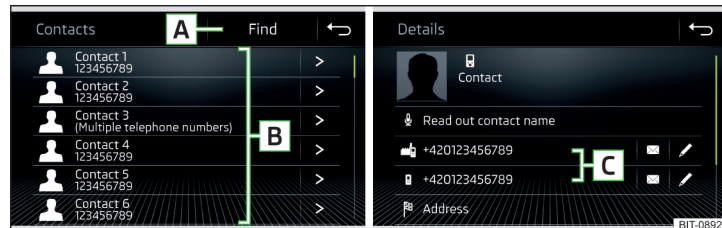
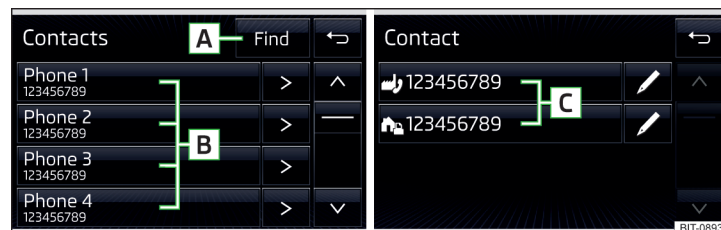

Fig. 165 Amundsen, Bolero: List of telephone contacts/contact details
Fig. 166 Swing: List of telephone contacts/contact details
- ▶ In the main *Telephone* menu, tap the function surface to display a list of telephone contacts » Fig. 165 or » Fig. 166.